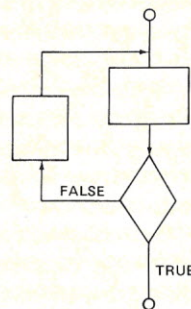

Fig. 5.
**General Conditional Sequence.** An additional sequence, the general conditional sequence, is not much different than the conditional sequence but probably has more practical value. The sequence combines the conditional and simple sequence. This sequence also shows how one can *compose* sequences. Any *line of control* within a sequence can be *broken* into another sequence, thereby creating a nested set of sequences. The symbol we use to represent this sequence is shown in Fig. 5.